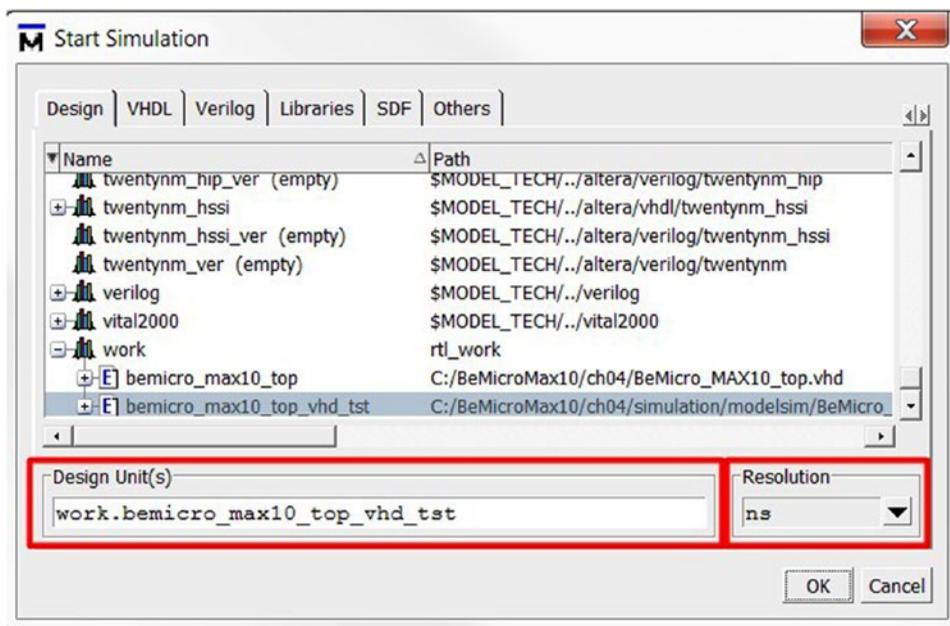
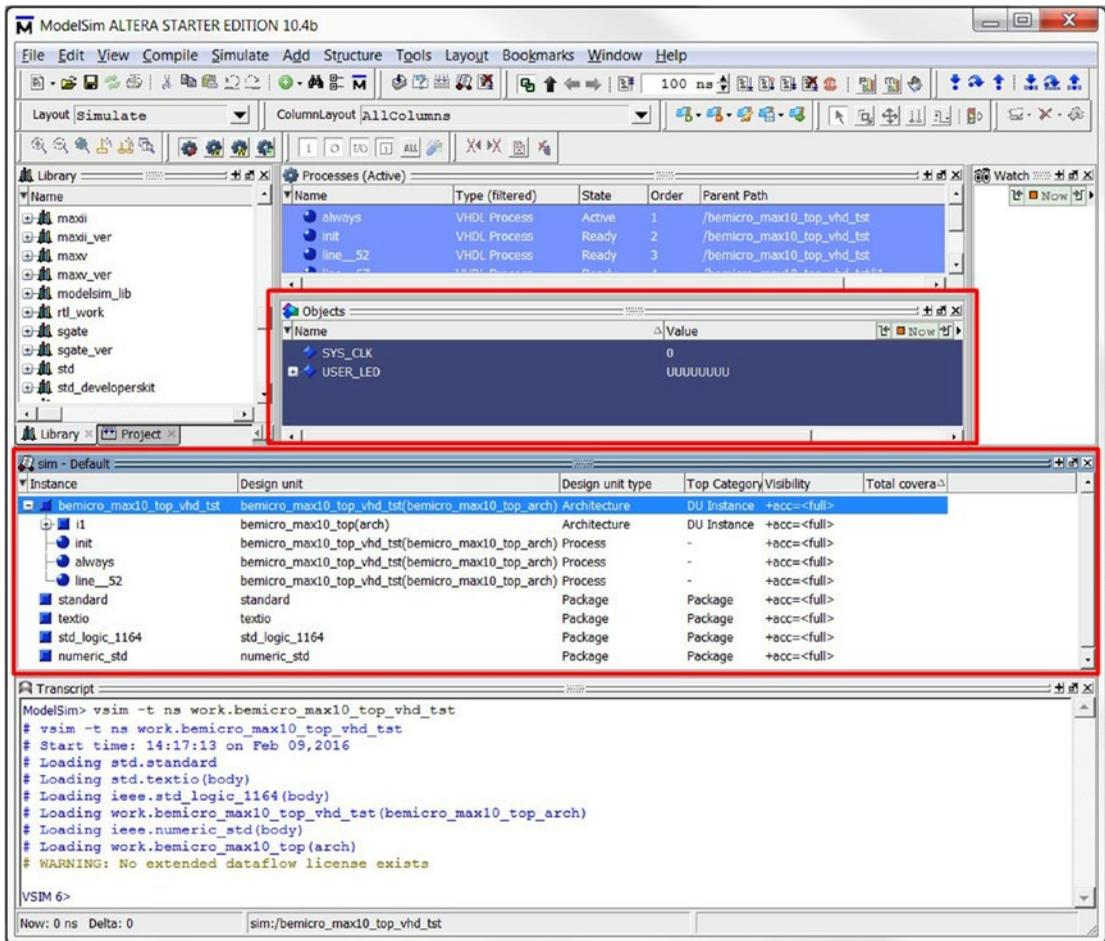

Figure 4-44. Recompile `bemicro_max10_top_vhd_tst`
Figure 4-45. Simulation started
10. Click the “+” icon next to the **work icon**, select **bemicro_max10_top_vhd_tst**, click the black triangle in the resolution box and select **ns**. All the settings should look like those in Figure 4-44 within the red box. Click **OK** to start simulation. The simulation will look like Figure 4-45.
There are two important boxes in the simulation: **Sim-Default** and **Objects**. **Sim-Default** shows the design structure relations. The **Object** box displays the object inside the selected (in the sim-Default) module. Figure 4-45 shows that we selected the test bench module (`bemicro_max10_top_vhd_tst`) and the object box show two objects: `SYS_CLK` and `USER_LED`.